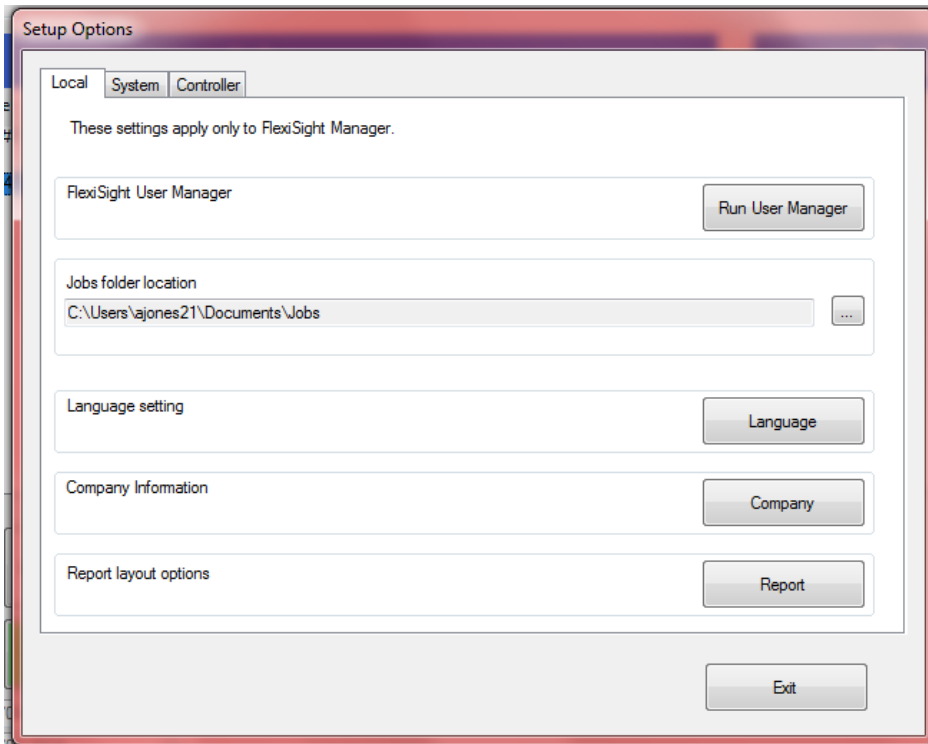

Figure 8.2 Local Setup Tab
The FSM Setup menu has 3 tabs (see Figure 8.2).
1. Press the Jobs folder browse button in the setup tab (see Figure 8.2).